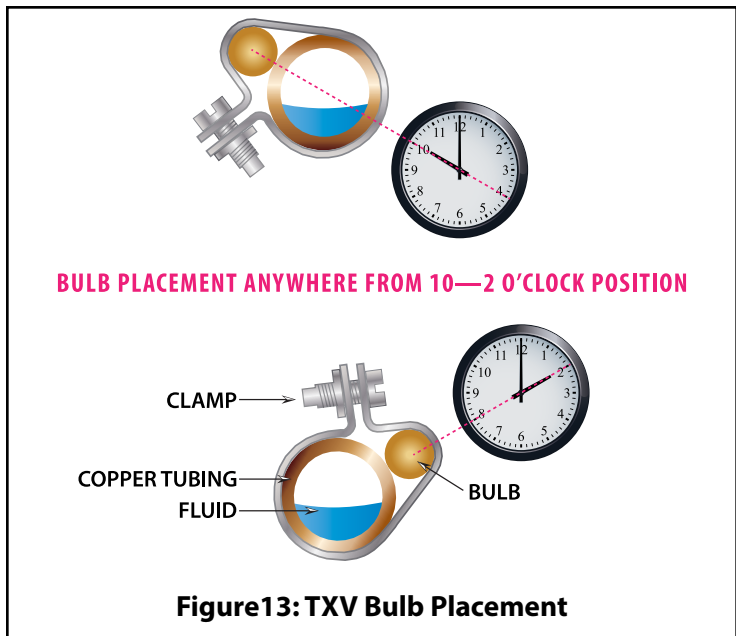

Figure 13: TXV Bulb Placement
2. The bulb should be installed on the upper portion of a horizontal section of the suction line between 10:00 o'clock and 2:00 o'clock as shown in Figure 13.